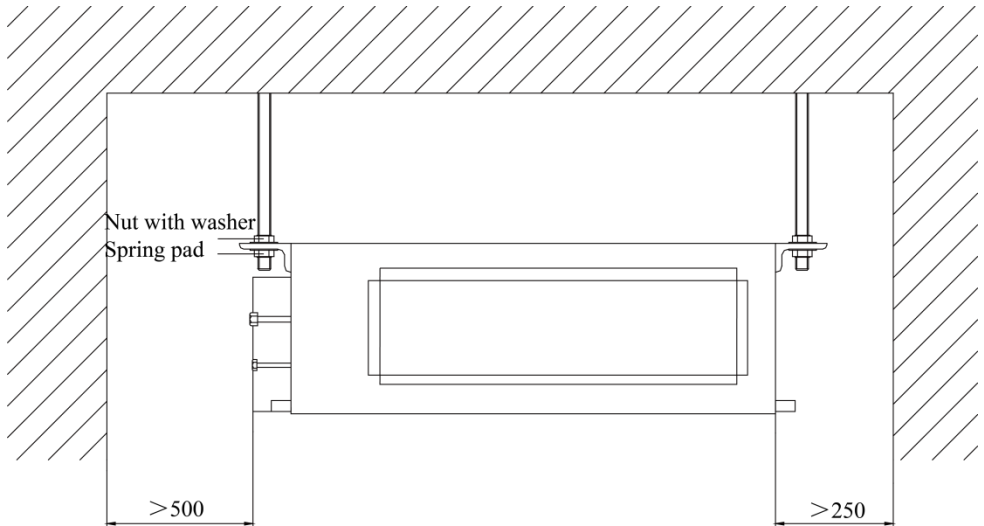

Fig. 2
- 4) Ensure the installation space shown in Fig.2 is left for the access to maintenance.